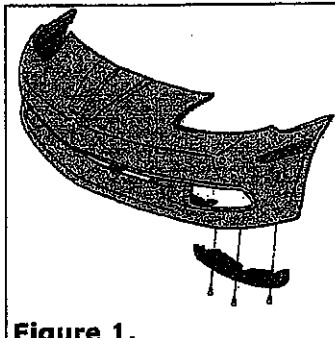

Figure 1.
- Remove front side air dams by unscrewing qty (3) screws on each side, using a 7mm socket and ratchet. Take out the qty (1) Christmas tree fastener that connects each side air dam to the center air dam. See Figure 1.